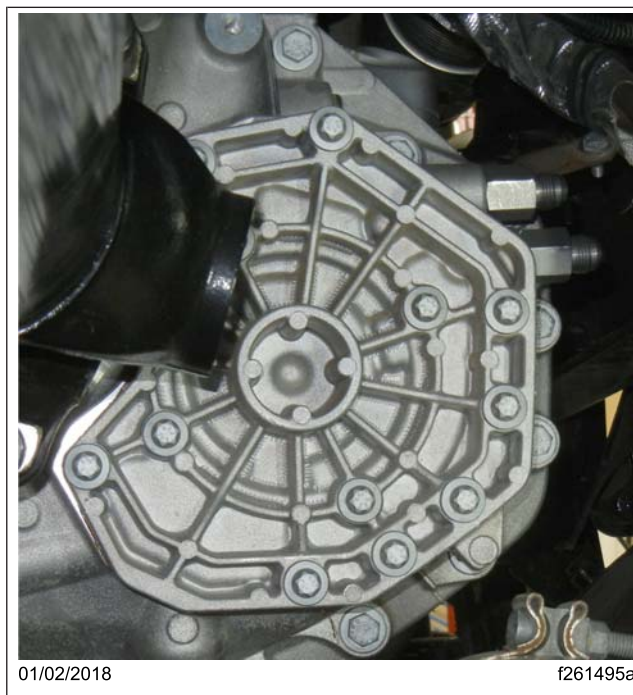

Fig. 9, Transmission Pump Cover
4. Remove the pump cover from the back of the transmission See Fig. 9.